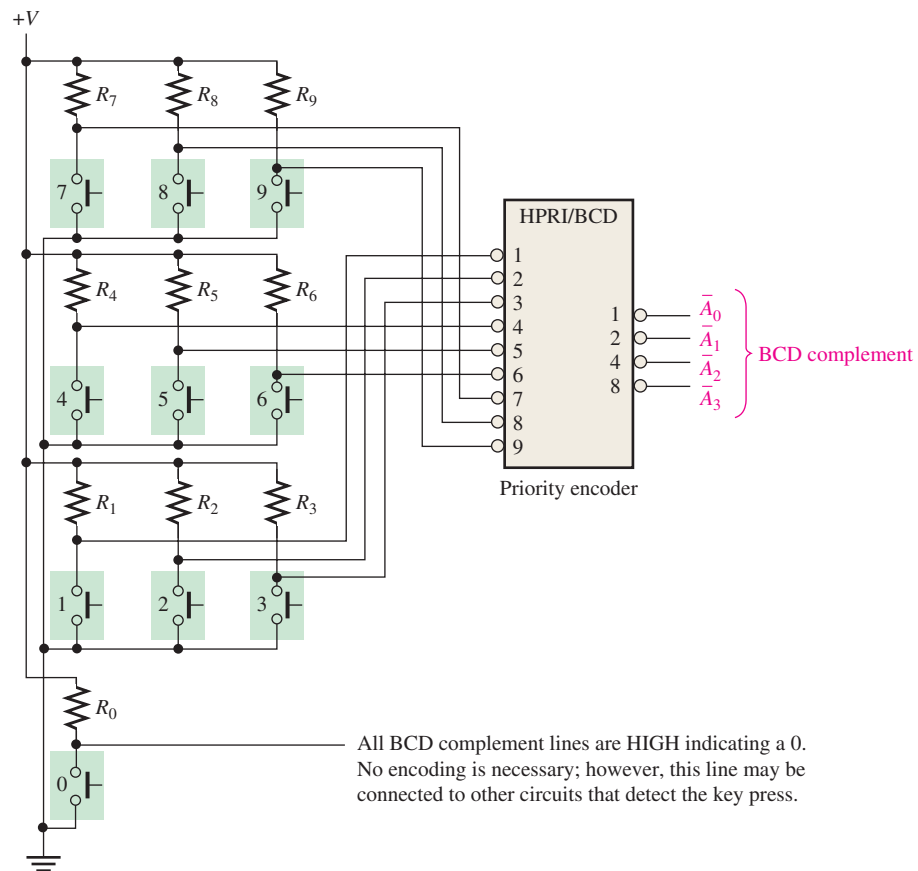

FIGURE 6–39 A simplified keyboard encoder.
The ten decimal digits on a numeric keypad must be encoded for processing by the logic circuitry. In this example, when one of the keys is pressed, the decimal digit is encoded to the corresponding BCD code. Figure 6–39 shows a simple keyboard encoder arrangement using a priority encoder. The keys are represented by ten push-button switches, each with a **pull-up resistor** to +V. The pull-up resistor ensures that the line is HIGH when a key is not depressed. When a key is depressed, the line is connected to ground, and a LOW is applied to the corresponding encoder input. The zero key is not connected because the BCD output represents zero when none of the other keys is depressed.
- Suppose the HIGH levels are applied to the 2 input and the 9 input of the circuit in Figure 6–37.
- What is the restriction on the encoder logic in Figure 6–37?
- What is the $\bar{A}_3 \bar{A}_2 \bar{A}_1 \bar{A}_0$ output when LOWs are applied to pins 1 and 5 of the 74HC147 in Figure 6–38?